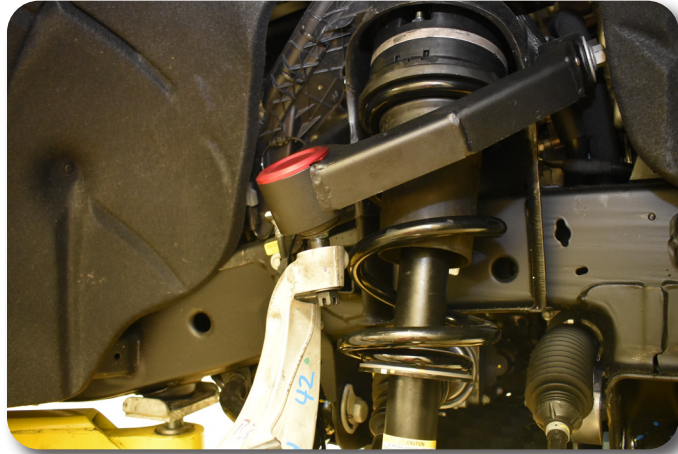

Figure 14
20. If the UCA is used with a stock knuckle, use the provided smaller cotter pin with the upper ball joint castle nut. If the UCA is used on Zone replacement 4" and 6" knuckles use the provided nylock nut. Reattach the upper ball joint to the knuckle **Figure 14**. Use the jack to support the lower control arm and torque the upper ball joint nut to 26 ft-lbs with the first pass and 60-75 degrees on the final pass.